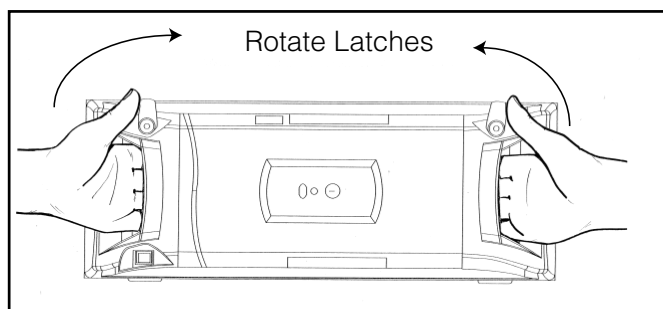

Fig. 3
4. Rotate the two latches and remove the door as shown in Figure 3. Place the door in a secure location.